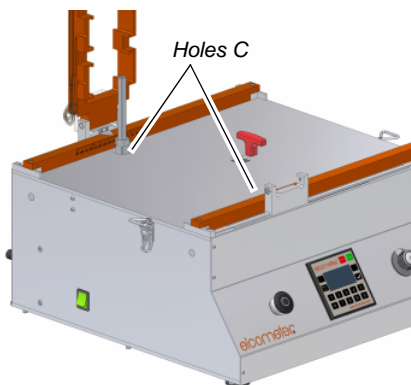

Figure 14. Grease the carriage mechanism through holes C
9. The grease points are visible through holes marked on Figure 14.